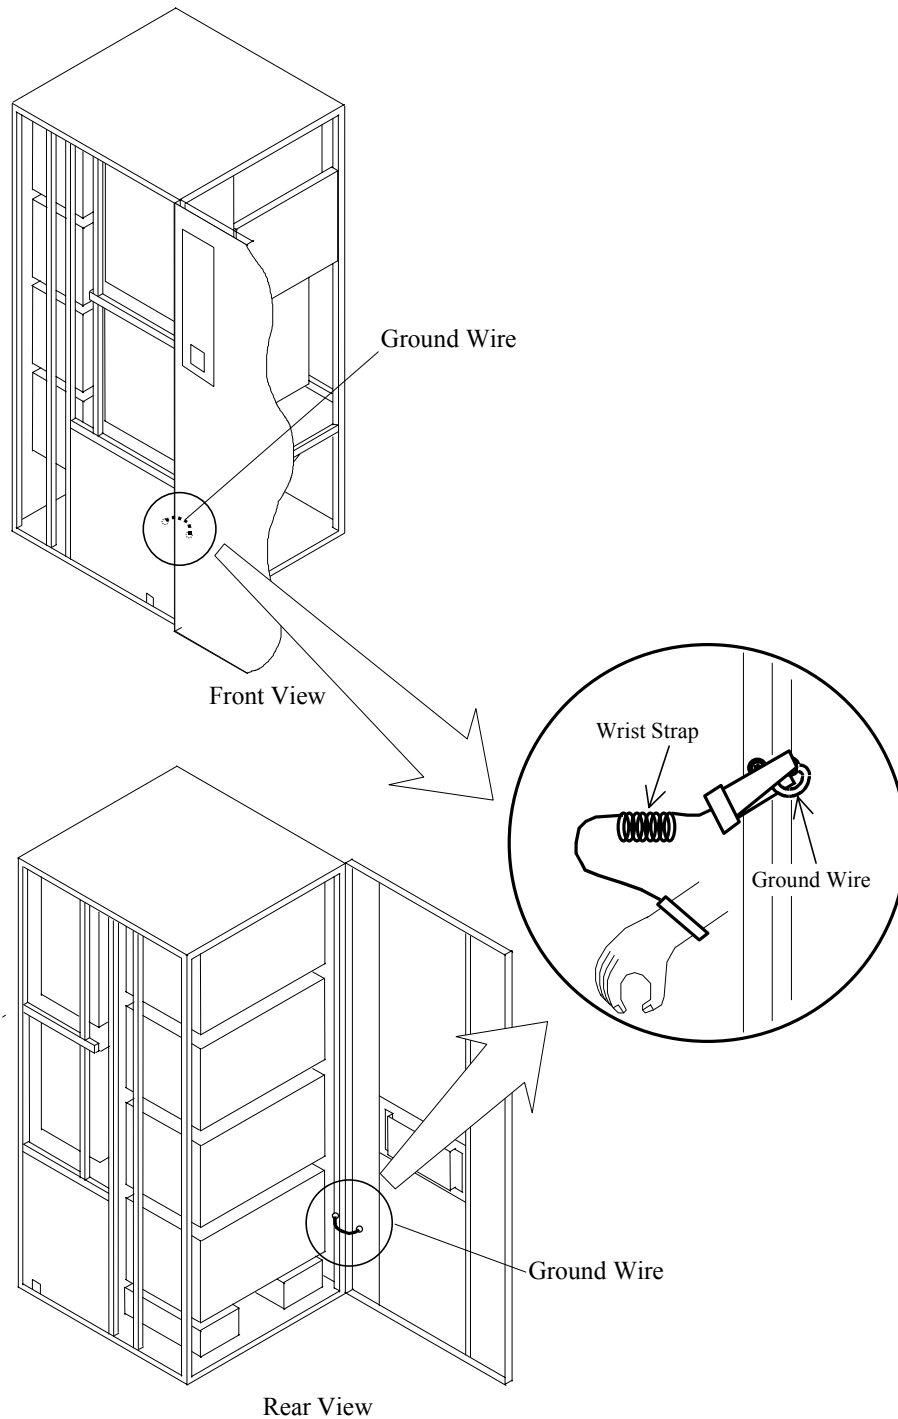

Fig. 3.1.2-1 Location of Ground Wire on the DKC
- (1) To protect the IC and LSI on the PCB from static electricity damage, put on the wrist straps and connect them into the ground wires on the DKC before starting work (see Fig. 3.1.2-1).